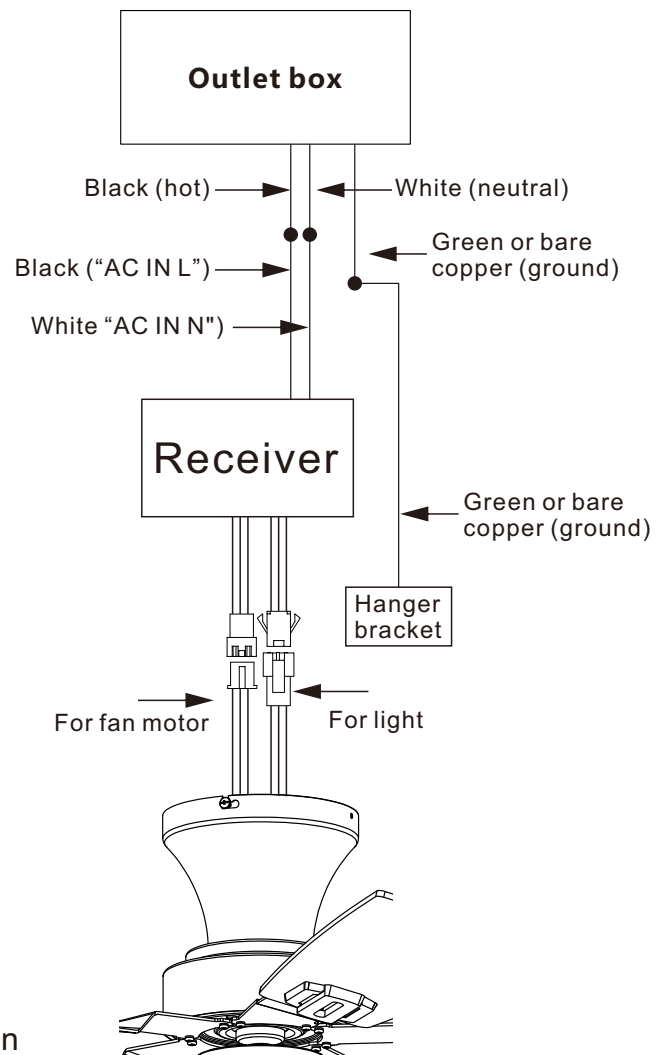

Figure 12
Motor to Receiver Electrical Connections:(Fig.12)
Step 2. (Fig.12) Receiver to House Supply Wires Electrical Connections: Connect the Black (hot) wire from the ceiling to the black wire marked "AC in L" from the receiver. Connect the white (neutral) wire from the ceiling to the white wire marked "AC in N" from the Receiver. Secure the wire connections with the plastic wire nuts provided.
Step 3. (Fig.12) If your outlet box has a ground wire (green or bare copper) connect it to the fan ground wires and the receiver ground wire; otherwise connect the hanging bracket ground wire to the fan and the receiver ground wire. Secure the wire connection with a plastic nut provided. After connecting the wires, spread them apart so that the green and white wires are on one side of the outlet box and other wires are on the other side. Carefully tuck the wire connections up into the outlet box.